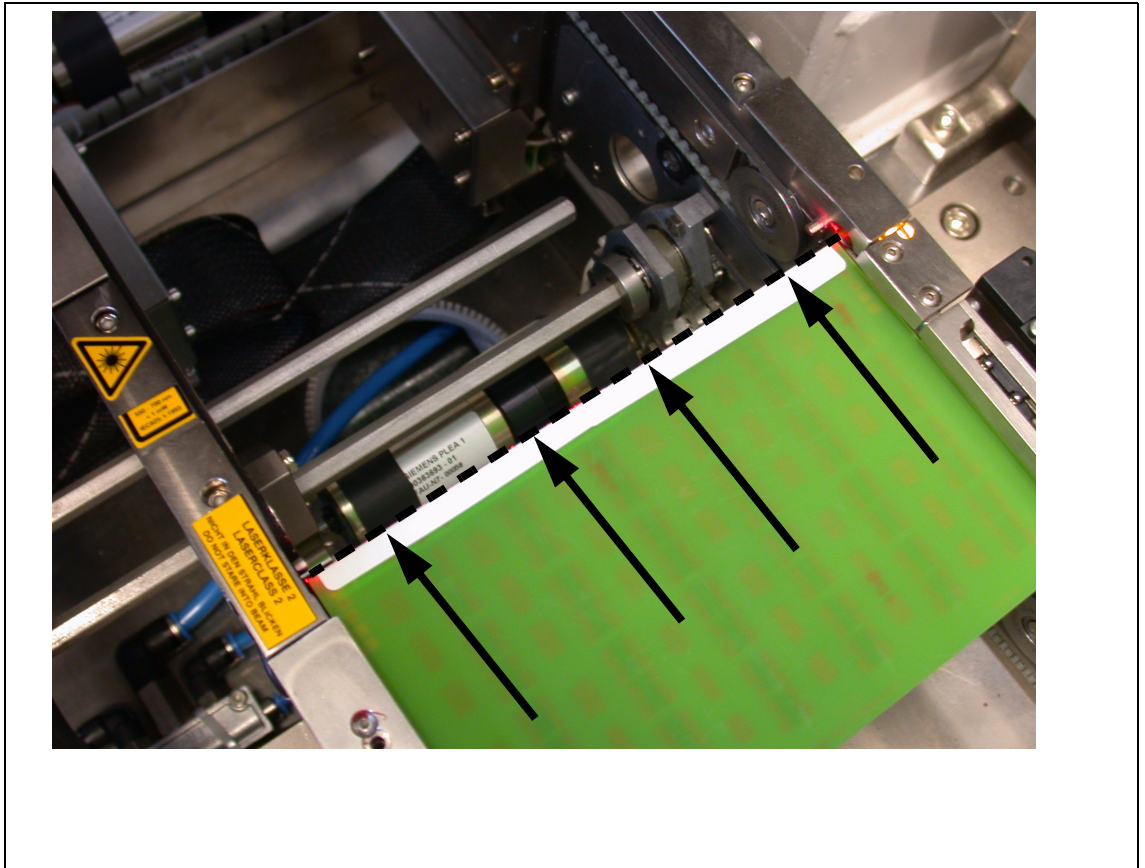

Fig. 6.14.31 Setting the laser beam
- Check the path of the laser beam. To do this, you might want to make the laser beam visible with the help of a piece of white paper or a light-colored PCB (see Fig. 6.14.31).